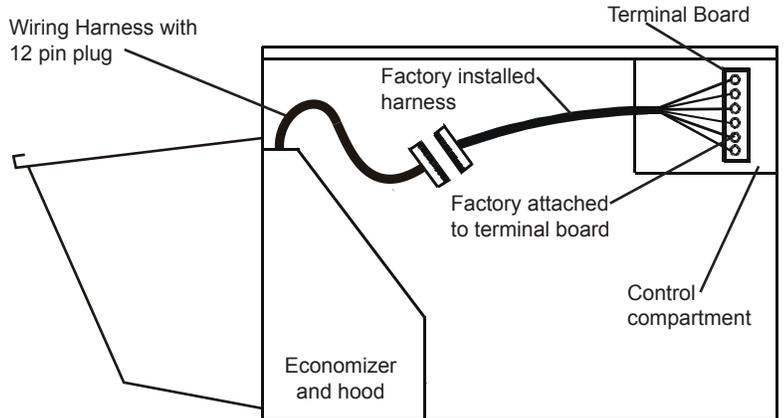

Fig. 9 - Internal RTU Wiring
- The HVAC unit has an economizer wiring harness factory installed. It attaches to the economizer harness on one end and is factory attached to the unit's terminal board on the other end (Fig. 9).